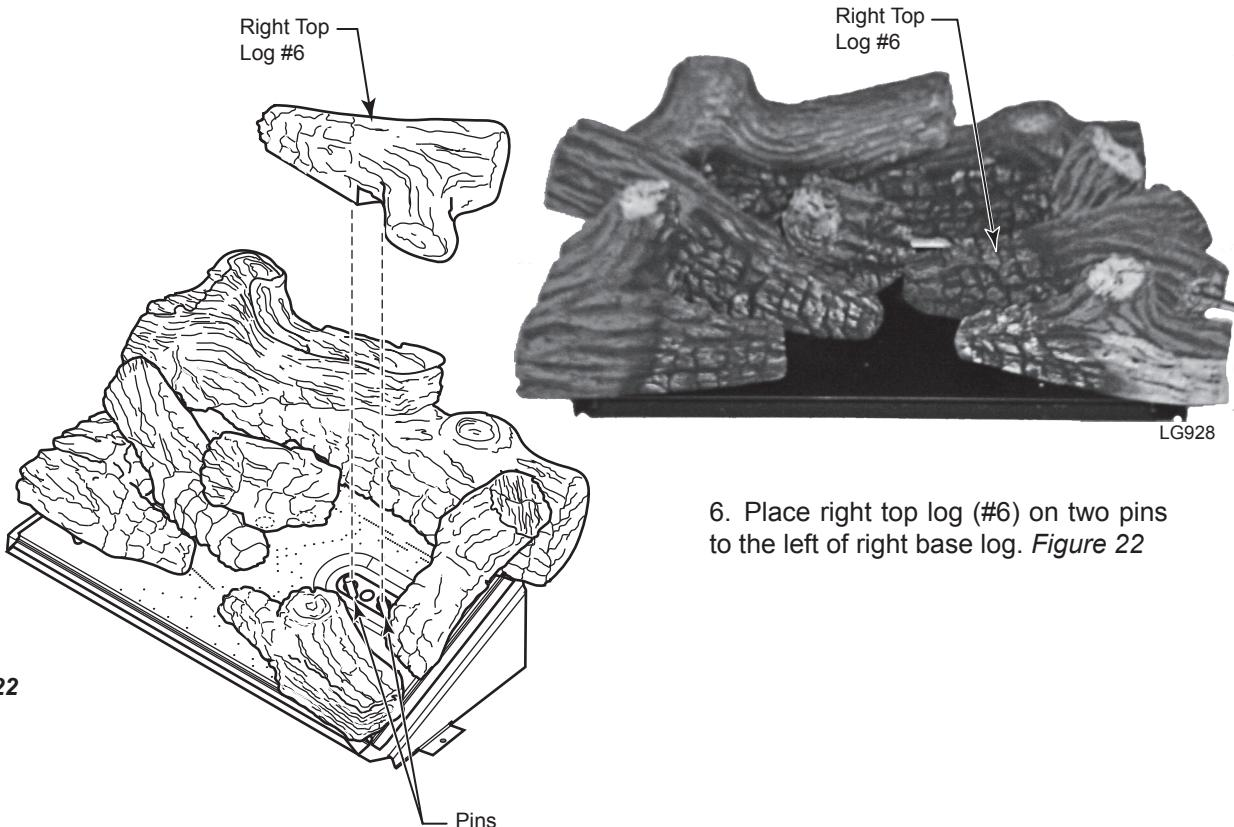

Figure 22
6. Place right top log (#6) on two pins to the left of right base log. *Figure 22*